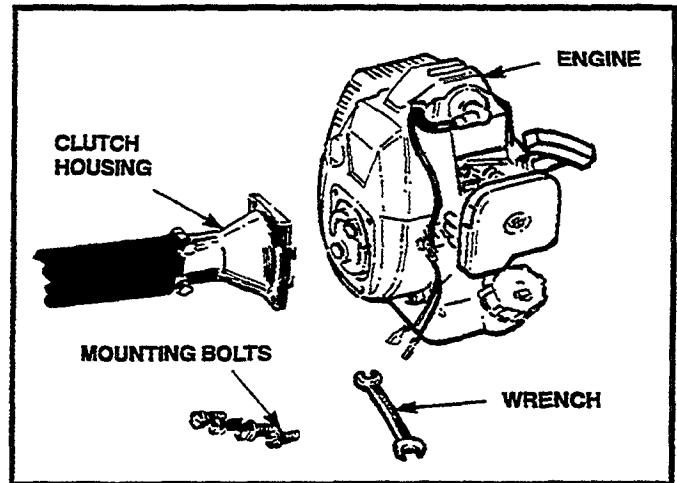
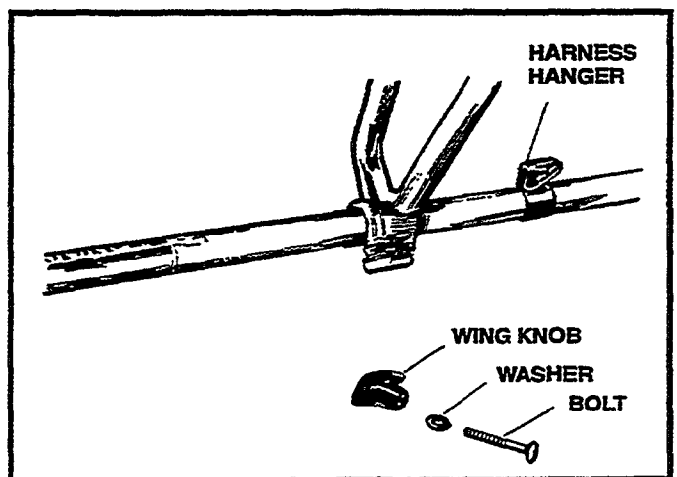

Figure 1
Figure 2
- Using the four (4) bolts supplied, mount the engine to the clutch housing as shown. (Figure 1)
- With wrench supplied, tighten all four (4) bolts evenly and securely.
2. INSTALLING MID-HANDLE (Figure 2)
- Install bolt, washer, and wing knob (Figure 2).